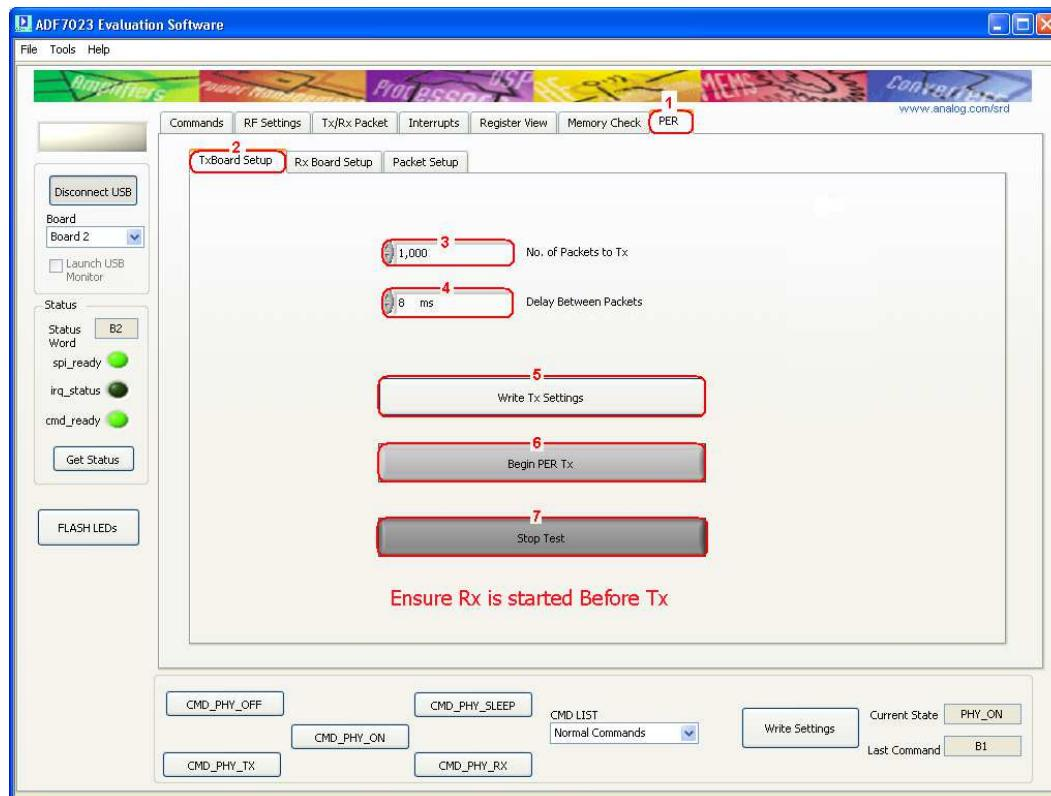

Figure 40
1. Once all of the Transmitter and packet parameters are setup correctly (as in Tx Setup in Packet Mode section) then select the “PER” Tab. (Figure 40 point (1))
2. Select the “Tx Board Setup” Tab (Figure 40 point (2))
3. Set the number of packets to be received, “No. of Packets to Tx” (Figure 40 point (3))
4. Set the delay between each transmitted packet from the “Delay Between Packets” dropdown menu. (Figure 40 point (4))
5. Write these settings to the uC by clicking “Write Tx Settings” (Figure 40 point (5))
6. To begin the test and put the receiver into Tx click “Begin PER Tx” (Figure 40 point (5))
7. If at any time you wish to terminate the test manually press “Stop Test”. (Figure 40 point (6))